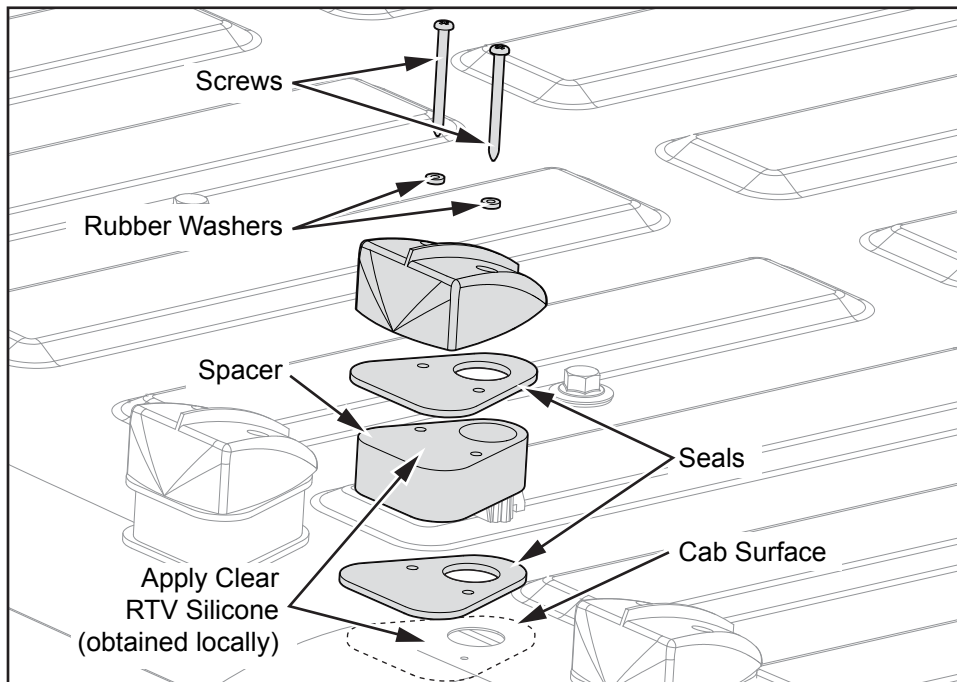

Figure 7
7. Apply clear RTV silicone (obtained locally) to the cab and spacer surface. Install (1) A8510067-001 spacer, (2) A8510068-001 seals, (2) GZ05003-001 rubber washers and the marker lamps set aside in step 6, using (2) GZ030010-002 screws. Repeat this process for the remaining (4) lamps (See Figure 7).